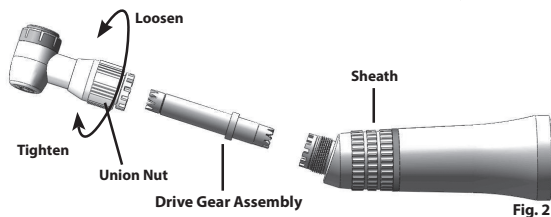

Fig. 2
**ATTACHMENT/REMOVAL OF CONTRA ANGLE HEADS (Fig. 2)**